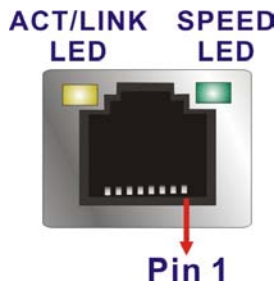

Figure 3-31: LAN Connector
- CN Pinouts: See **Figure 3-31** and **Table 3-28**